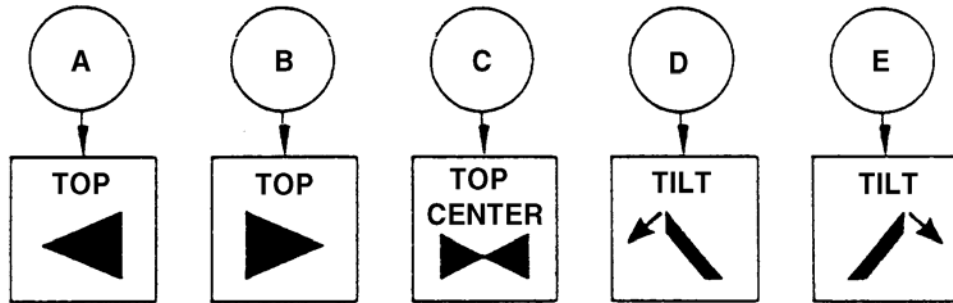

Figure 1-2. Table side controls.
(1) Remove the three flat-head Phillips screws from the rear edge of the table top.
(2) Push on the front edge of the top and lift it from the table.
(3) To remove the subtop from the table, move the table-top frame towards the end of the table with the most clearance from the wall.
(4) Remove the bracket at the exposed end of the table which holds the subtop.
(5) Loosen the screws in the brackets holding the subtop at the front and rear of the table.
(6) Move the table-top frame to the other end of the table and repeat steps (4) and (5).
(7) Slide the subtop off the body of the table.
(8) Replace the subtop by sliding it under the front and rear brackets (two brackets at each end of the table) and replace the foot and head end brackets. Tighten the screws holding the front and rear brackets.
(9) Replace the table top by positioning it on the table-top frame carriage and pushing on the rear edge while guiding it into place. It will be necessary to adjust its longitudinal position in order to align the mounting holes in the table top and carriage.
e. **Operational Check.** The operational tests in this section are also needed to ensure patient safety and ease of operation. When performing these tests, pay particular attention to smoothness and ease of operation. Make sure there is no difficulty of operation, squeaking or other unusual noises, or malfunction(s). Exercise all table motions as follow. (See figure 1-2 for switch locations.)
(b) Press the top-left switch (A in figure 1-2) until the table top stops. If the table top stops when the 30-inch reference mark is aligned with the head end of the table body, no adjustment is necessary.
(a) Press the top-center switch (C in figure 1-2) and observe that the table top centers itself by ensuring the ends of the table top frame align with the ends of the table body. If the ends are in alignment, no adjustment is necessary.